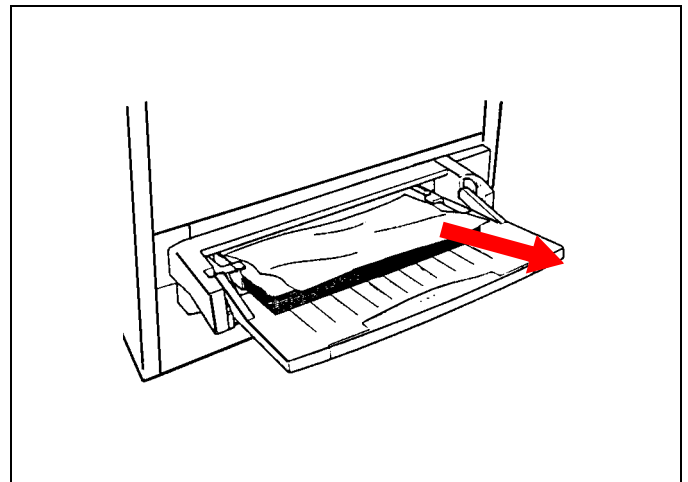

Figure 11
- See Figure 11. Pull the jammed paper out of the tray. Be sure no torn pieces of paper are left inside.